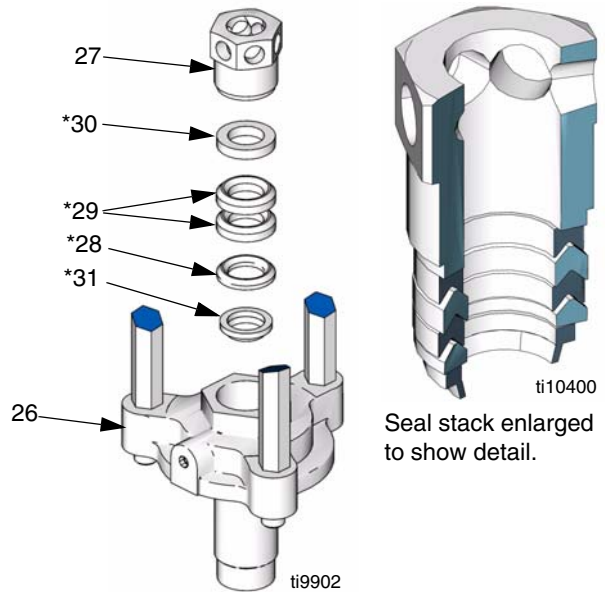

FIG. 24
- Remove hex nut (27) from mounting flange (26). Remove female gland (30\*), 2 PTFE packings (29\*), male gland (28\*) and wiper (31\*). Inspect all parts for damage. See FIG. 24.